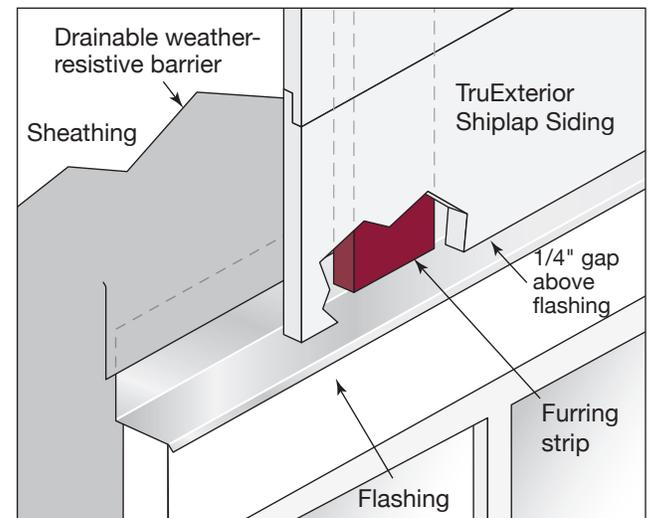

Fig. 42
- Install flashing behind the weather barrier and furring strip and allow a 1/4" clearance from the siding to the tops of windows, doors and bottoms of walls (**Fig. 42**)